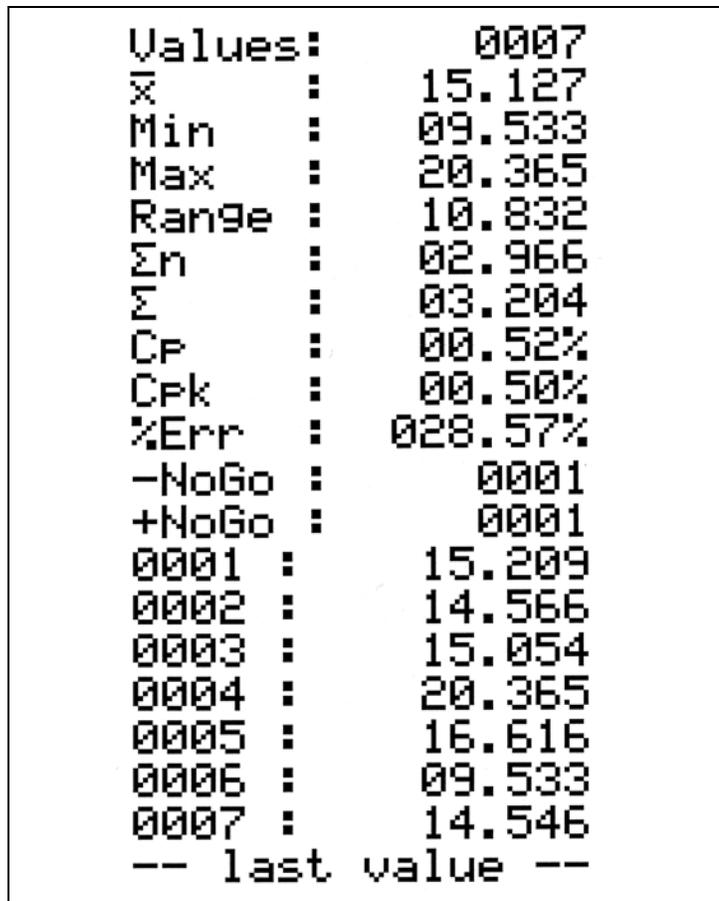

Figure 4-3: Value Display
2. Repeatedly press up or down VALUE to scroll through the LCD display as shown in Figure 4-3.